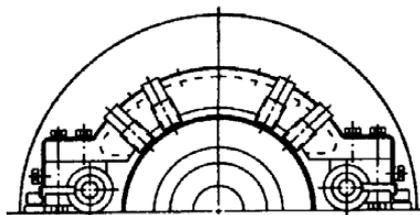
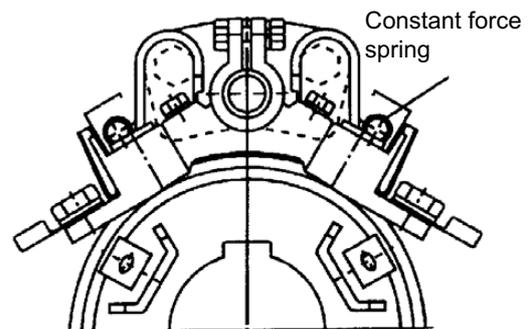

Fig. 15
Fig. 16
- (c) Brush pressure need not be adjusted if constant force spring is used as shown in Fig. 15 and Fig. 16.